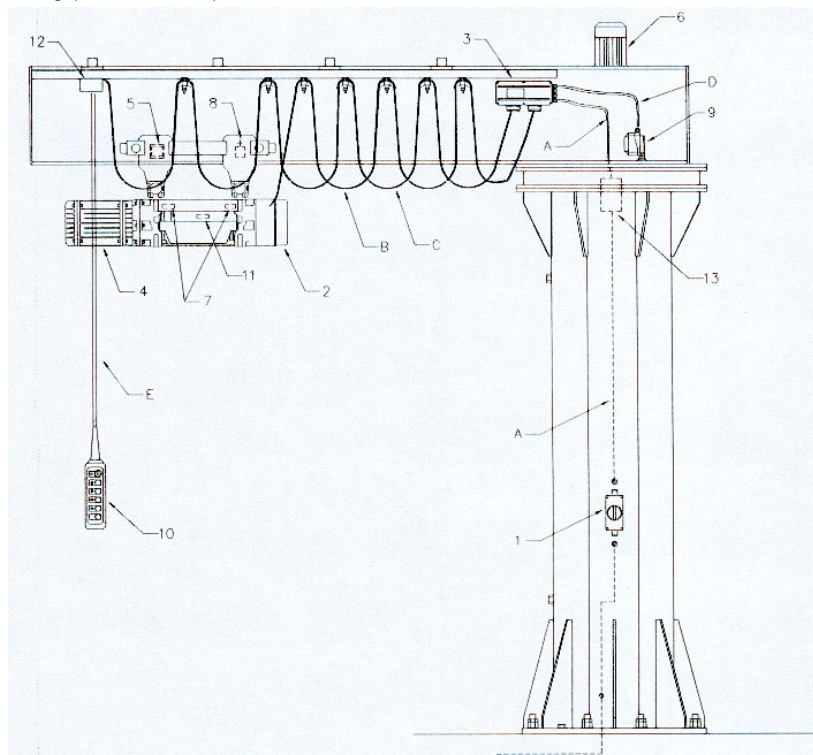

fig.41
- The following diagram (fig.41) shows the criteria to locate the electrical uses and the cable/wires path. All the uses and the cables are indicated and signed on their relative components.
- The following diagram (fig.41 bis) shows the criteria to locate the electrical uses and the cable/wires path. All the uses and the cables are indicated and signed on their relative components.
fig.41 bis